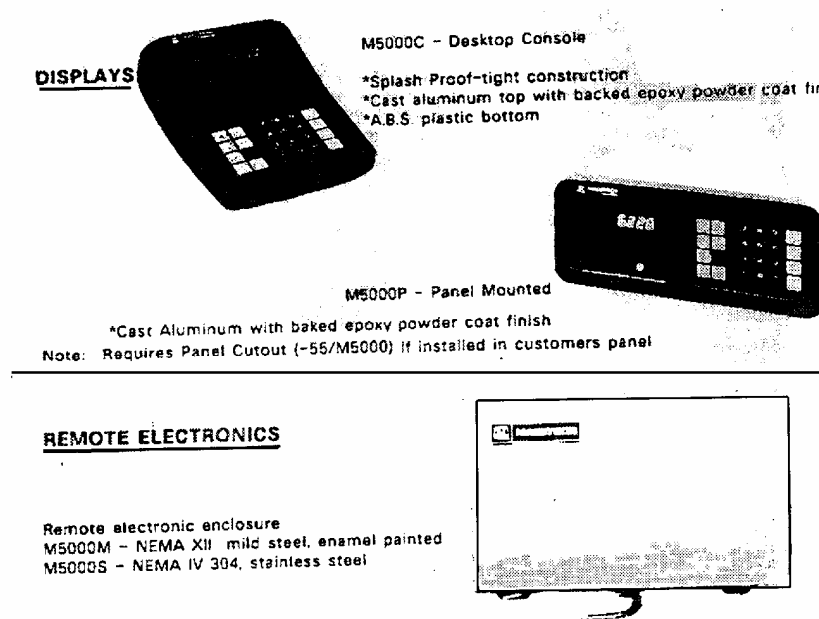

Figure 1-2
There are over (10) configurations of the M5000. They fall into two basic categories; self-contained instruments (see Fig. 1-1), and displays with remote electronics. (Fig 1-2)
M5000's can be configured by selecting any combination of (1) display with (1) remote Electronics (see Fig 1-2). The model numbers use a (2) digit suffix as follows: